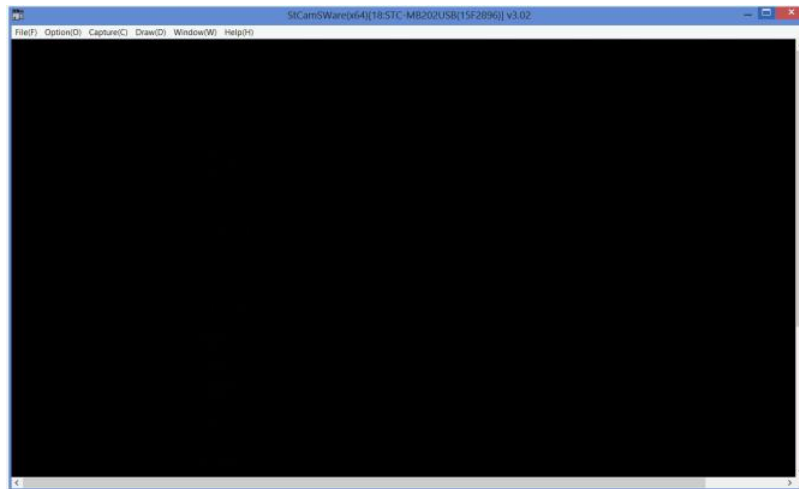

Figure 28 Optical Camera Live View
26. Optical Camera Live View Dialog box would be illustrated as below Figure 28.